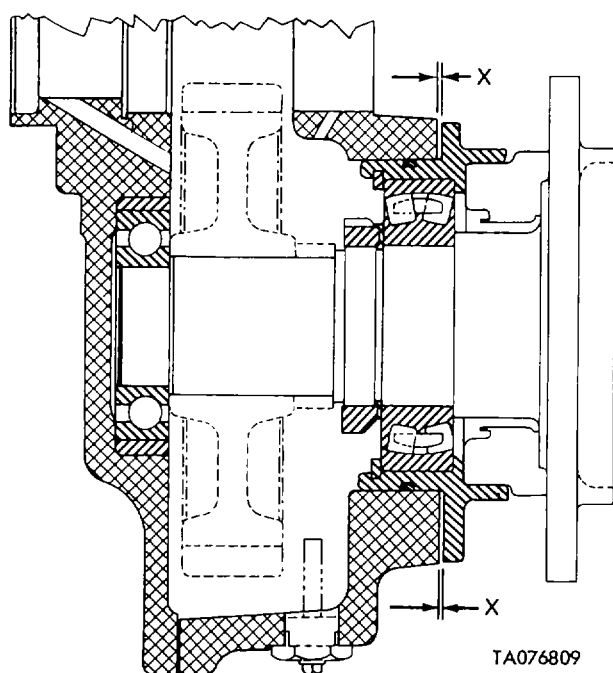

Figure 4-31. Final Drive Assembly Shim Measurement
- (g) Measure and record the gap (X in fig. 4-31) between bearing cap and housing mating surfaces. Add 0.005 to 0.010 inch to this measurement. The resultant total represents the shim thickness to be installed between the bearing cap and housing. Separate cover and housing and remove bearing cap and associated parts from housing.